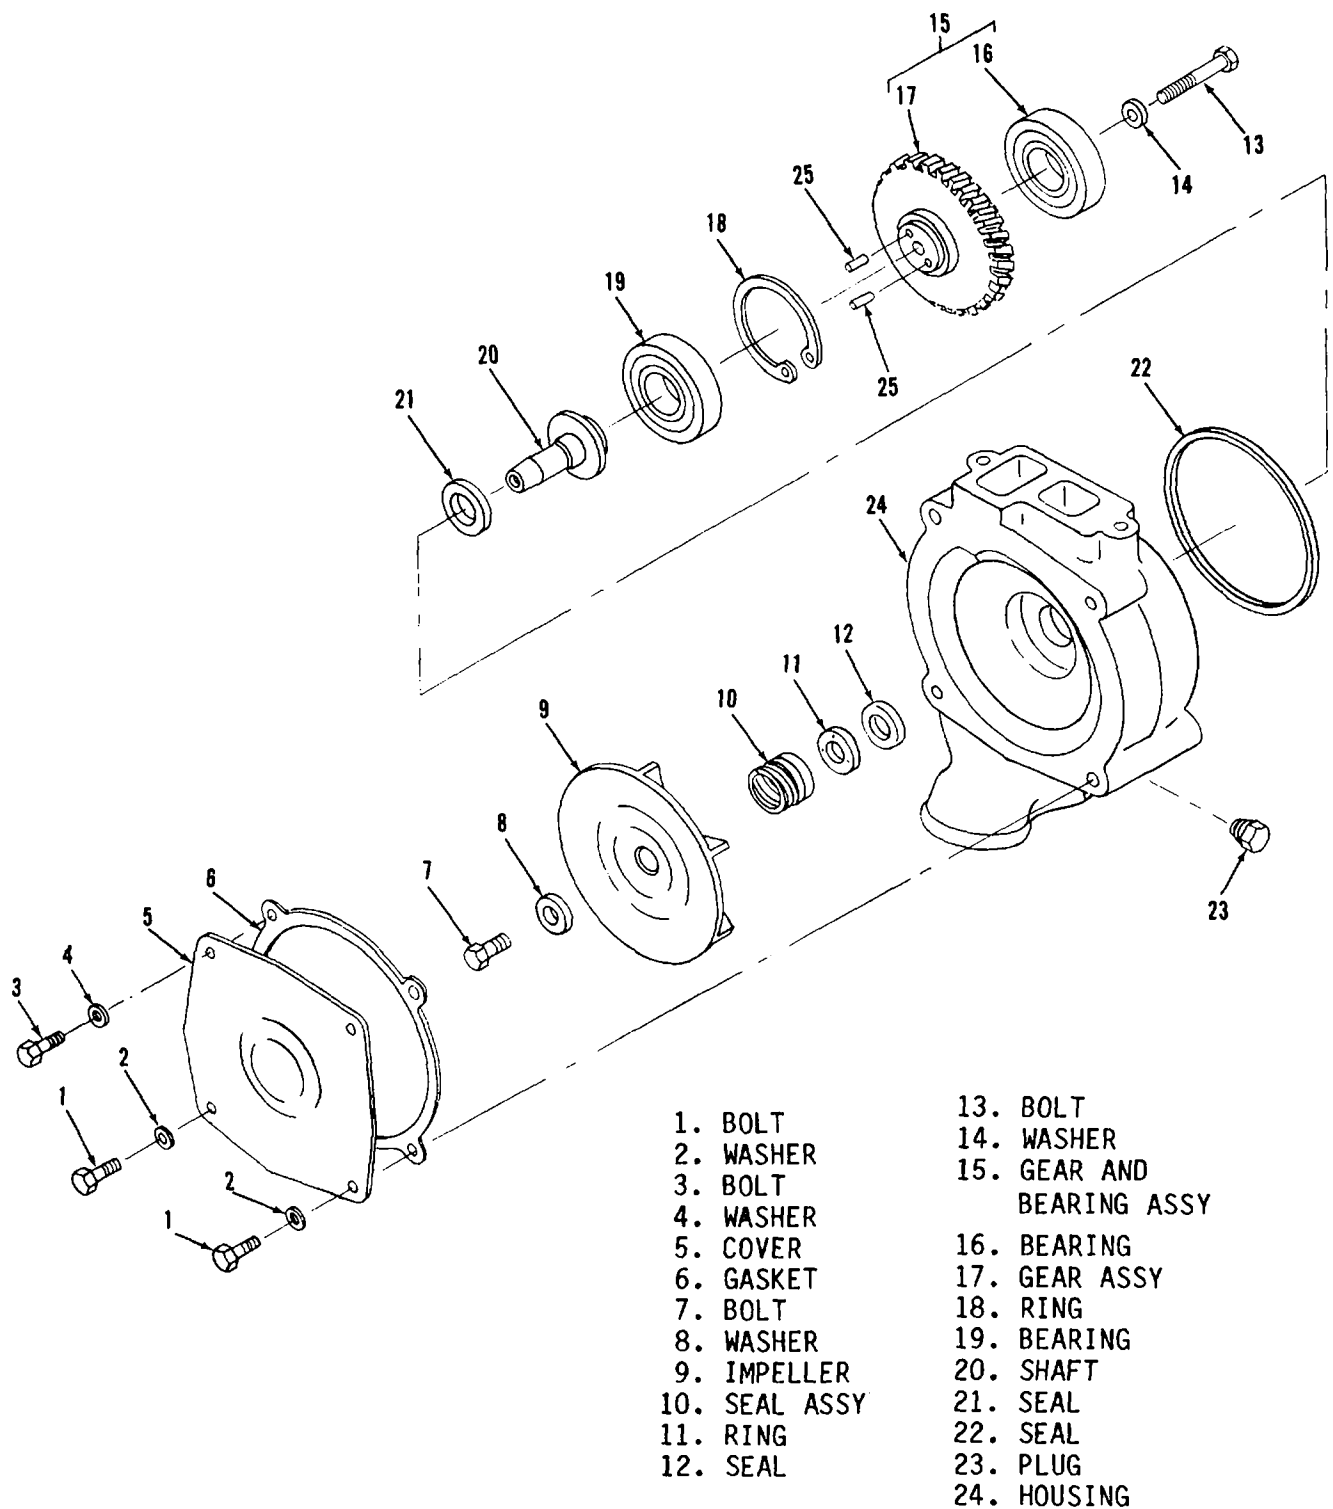

Figure 8-3. Water Pump, Exploded View
8-6. GENERAL. The water pump is mounted on the front of the timing gear cover. The centrifugal-type pump is driven by the camshaft gear. The pump consists of an impeller and drive gear mounted on a common rotating shaft (see figure 8-3). Seals mounted on the shaft prevent water from leaking into the gear section and oil from leaking into the impeller section. As the engine is running, the gear turns the shaft and impeller. The impeller creates a forceful flow of water through the engine cooling system.
b. Remove bolts (1 and 3, figure 8-3) and washers (2 and 4) to remove cover (5) and gasket (6).
c. Loosen bolt (7) 0.25 inch (6.35 mm). Strike the bolt with a soft hammer to loosen impeller (9) from shaft (20).
d. Remove bolt (7), washer (8), impeller (9), and seal assembly (10).
e. Remove ring (11) and seal (12).
f. Remove bolt (13) and washer (14).
g. Remove gear and bearing assembly (15). Remove bearing (16) from gear assembly (17) using driver.
h. Remove ring (18).
i. Remove bearing (19) and shaft (20).
k. Remove plug (23) from housing (24).